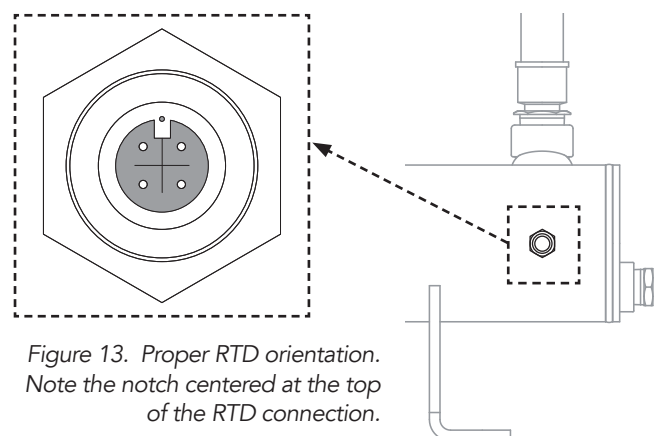

Figure 13. Proper RTD orientation. Note the notch centered at the top of the RTD connection.
5. Screw replacement RTD to tank. When tightening, ensure plug is aligned with notch toward top of tank. See *Figure 13*.